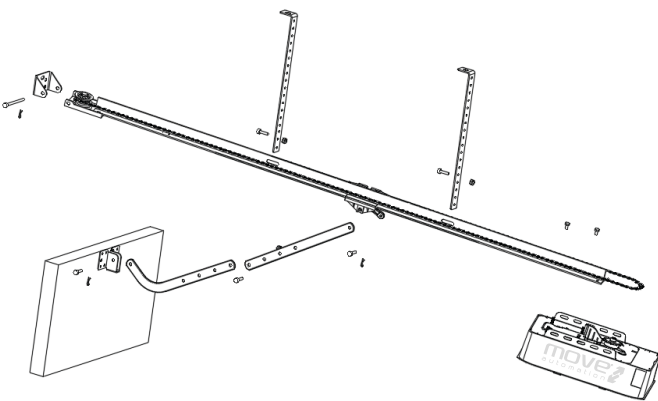

Figure 19
STEP 1 (Fig.19)
STEP 2 (Fig.19)
STEP 3 (Fig.19, Fig.20)
STEP 4 (Fig.19, Fig.21)